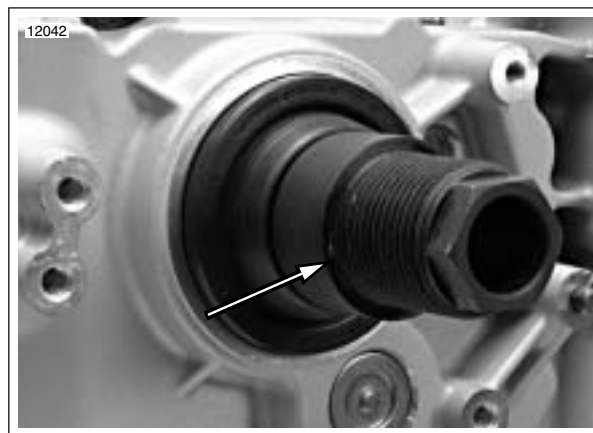

**Figure 6-78. Install Pilot (Part No. HD-47856-2) (Typical)**
1. See Figure 6-78. From outside of crankcase, install PILOT (Part No. HD-47856-2) over end of main drive gear bearing inner race.